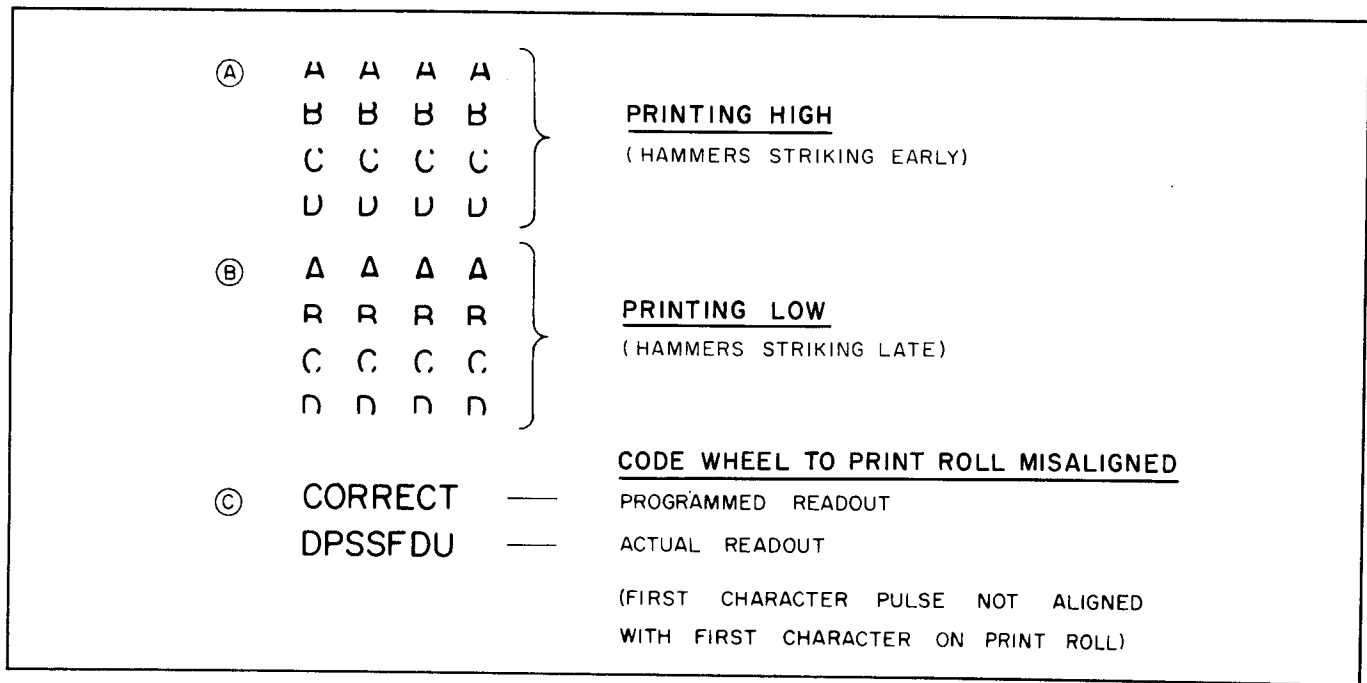

Figure 7-5. Examples of Phasing Misalignment
The Photo-Data Pulse Generator may be adjusted to correct phasing misalignments as indicated in Figure 7-5. The procedure for correcting phasing is as follows:
1. Compare the printer readout with Figure 7-5 to determine the type of misalignment.